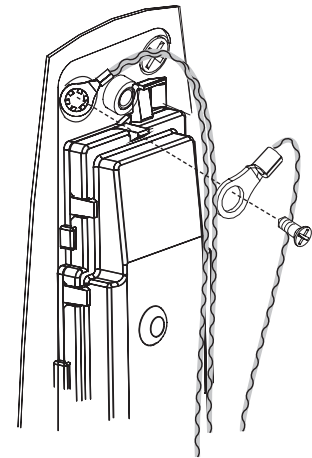

Fig. 11B
- Twist into place, perpendicular with door (Fig. 11B).
- Position two-wire green/yellow ground wire ring terminal (from lock body) over hole for top left screw (Fig. 11B, C).
IMPORTANT: Note orientation of ground ring terminals in Fig. 11B-D.